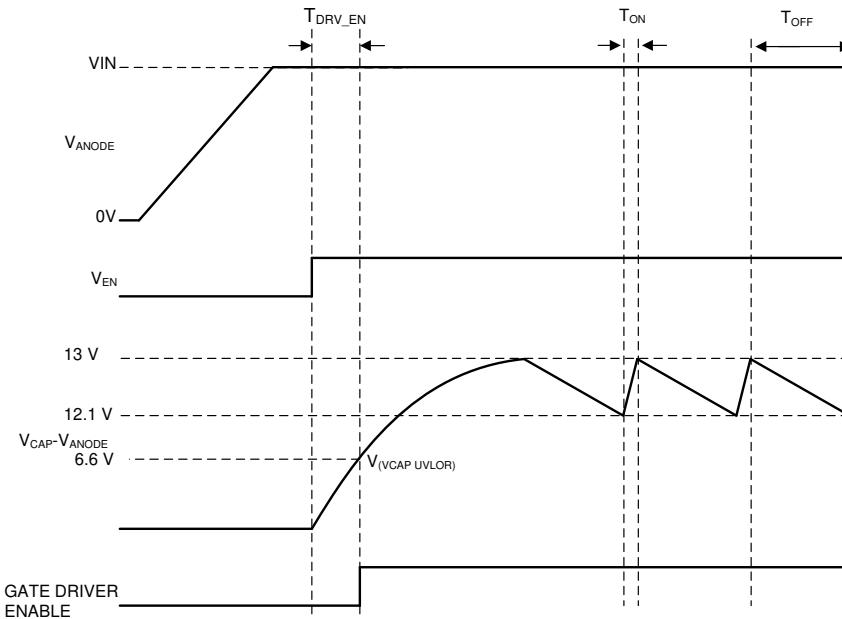

Figure 9-1. Charge Pump Operation
- . To remove any chatter on the gate drive approximately 900 mV of hysteresis is added to the VCAP undervoltage lockout. The charge pump remains enabled until the VCAP to ANODE voltage reaches 13 V, typically, at which point the charge pump is disabled decreasing the current draw on the ANODE pin. The charge pump remains disabled until the VCAP to ANODE voltage is below to 12.1 V typically at which point the charge pump is enabled. The voltage between VCAP and ANODE continue to charge and discharge between 12.1 V and 13 V as shown in Figure 9-1. By enabling and disabling the charge pump, the operating quiescent current of the LM74700-Q1 is reduced. When the charge pump is disabled it sinks 5- $\mu$ A typical.